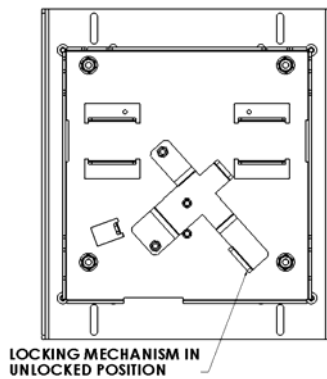

Figure 6
4. Reattach mounting plate to back of display (see Figure 6). Make sure locking mechanism is to the side (unlocked position) before placing plate on display. Once in place, secure plate to back of screen by moving locking arm to down position.